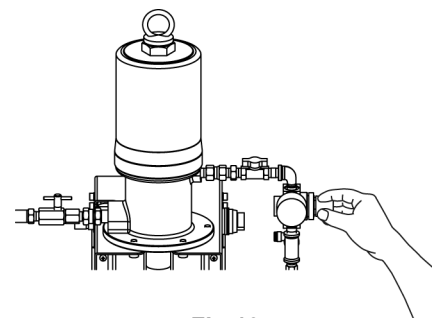

Fig.13
- 2) Adjust the air regulator for the pump to set the pressure supplied to the pump to 0.2 - 0.7 MPa. (Fig.13)